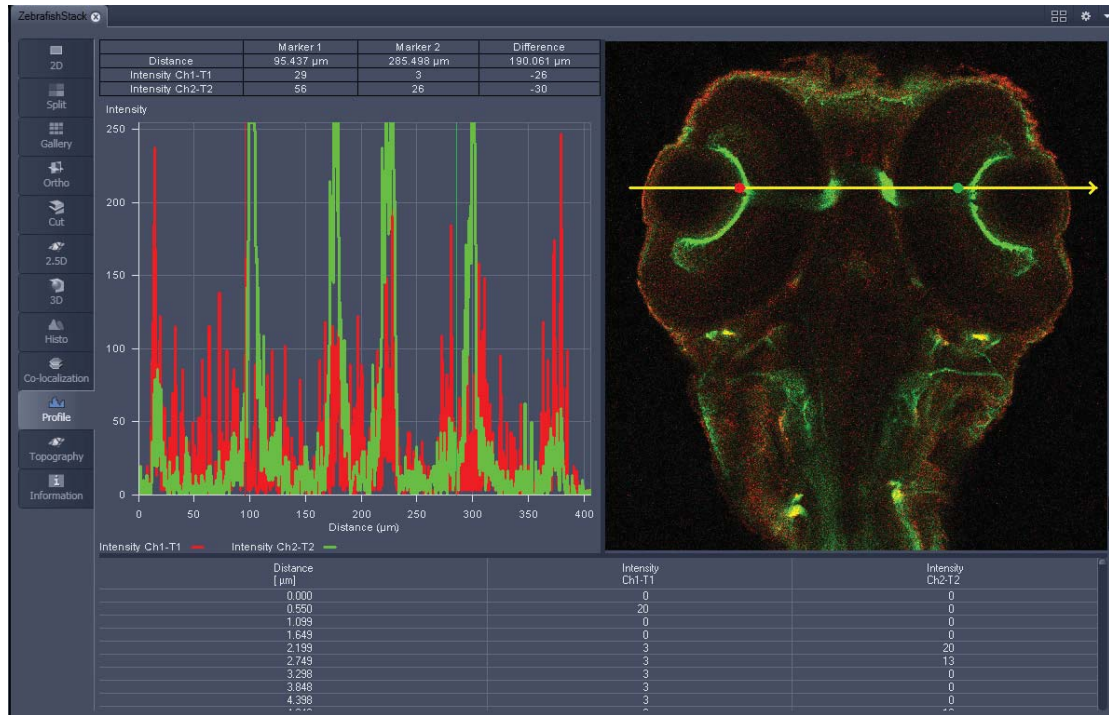

Fig. 4-210 Image Display - Profile View, Line Profile with markers
- Draw a Profile line in the image display to define a profile. The intensity curves are shown in a separate graph. (see Fig. 4-210).